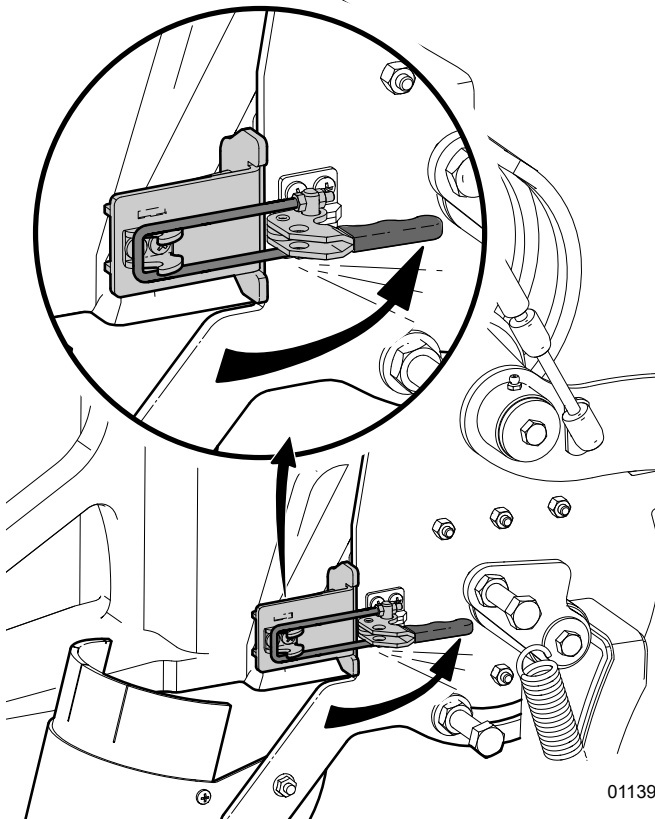

Fig. 29—Holder draw latch
1. Remove the chain-sprocket cover nuts from your chain saw. Some chain saws feature captive guide bar nuts in the chain-sprocket cover. For this type of saw, replace the guide bar nuts with bushing spacers (2).
2. Thread the two bar-mounting studs (3) onto the chain saw guide bar studs.
3. Install the adapter (1) over the bar-mounting studs.
4. Fasten everything together with the two M8 x 20 mm hex bolts and washers (4).
5. Open the holder draw latch. For more information, see *Fig. 29 on page 39*.